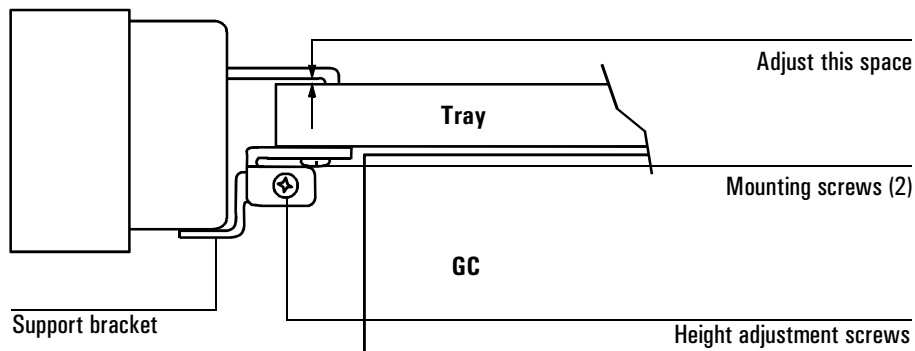

Figure 8 The bar code reader support bracket
See Figure 8.
3. Adjust the bar code reader's height. Slightly loosen the height adjustment screw on the side of the support bracket and raise or lower the bracket until there is a very small gap—about the thickness of a piece of paper—between the mounting clips on the bar code reader and the tray. See Figure 8. Tighten the height adjustment screw.